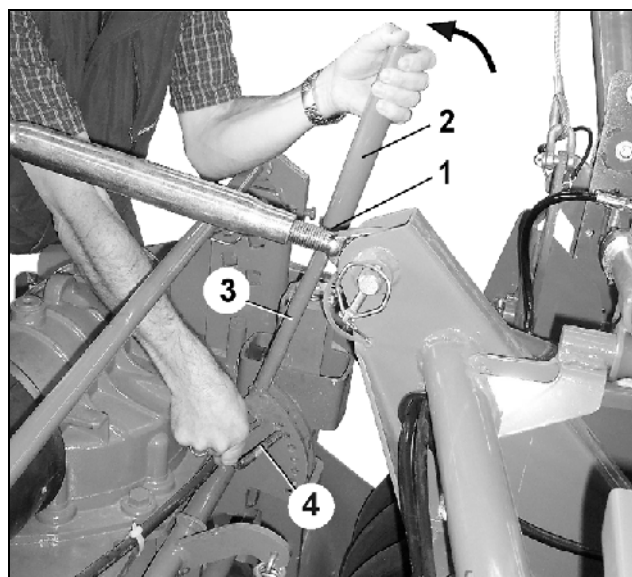

Fig. 105
- Slacken the clip pin (Fig. 105/1)
- Pull the lever extension (Fig. 105/2) off the lever (Fig. 105/3).
- Turn the lever extension and affix on the lever (Fig. 105) using a clip pin.
- By inserting pins (Fig. 105/4) in quadrant plate set the desired height of the levelling bar.